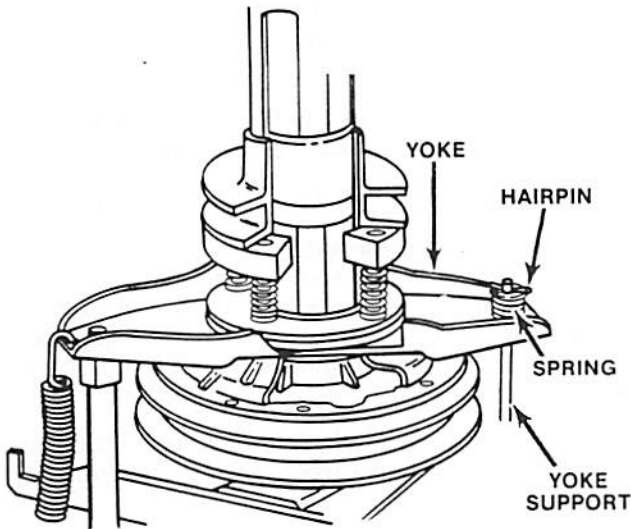
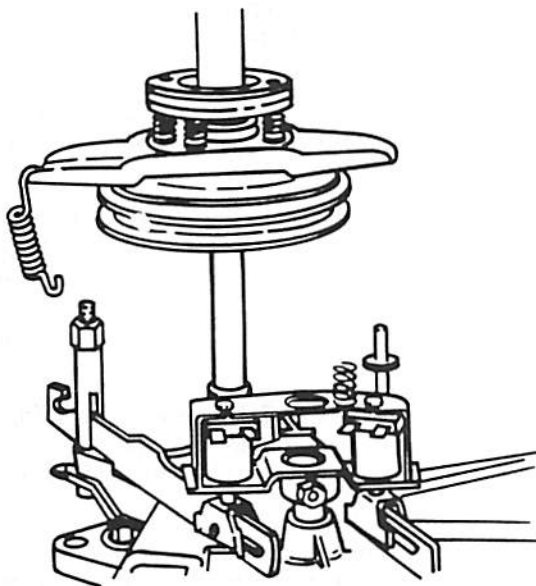

Fig. 18. Retaining spring removal.
Fig. 19. Removing a portion of the superstructure.
*Separating the Superstructure From the Gearcase—*First remove the hairpin and retaining spring from the brake shoe yoke support (Fig. 18). Current machines use a plastic retainer which snaps into the brake yoke, the yoke support then snaps into the plastic retainer. Take the brake shoe yoke spring off or unsnap the plastic retainer. Now the complete basket drive and brake assembly will slip off of the agitator shaft as can be seen in Fig. 19.